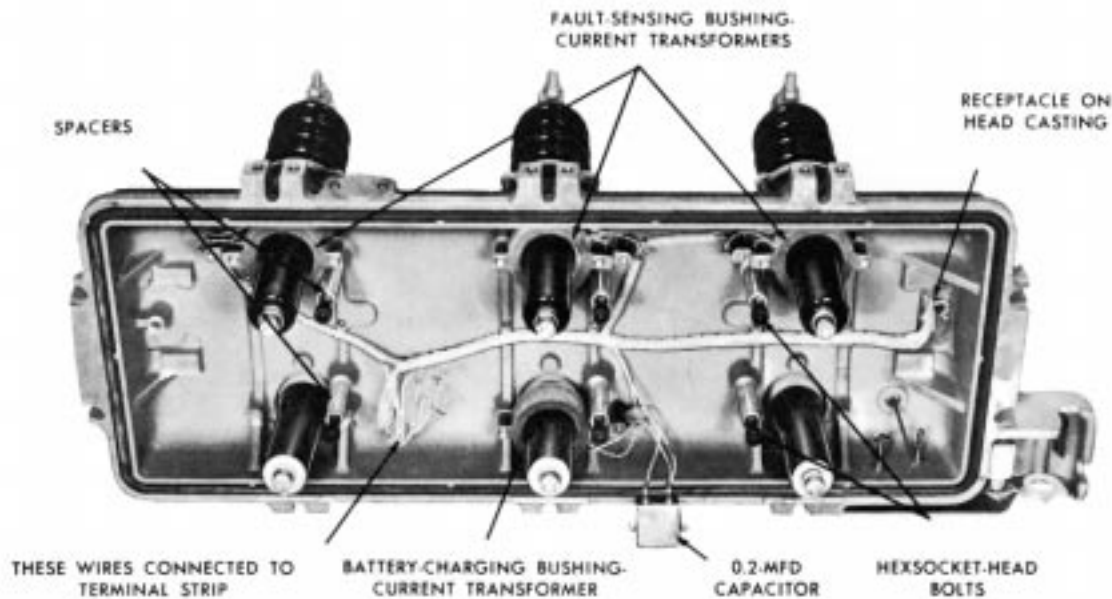

Figure 18
6. Remove the six 1/2" x 4-1/2" hexsocket head bolts that secure the frame to the head casting. Be sure the recloser mechanism is supported from below before these bolts are removed. Six tubular spacers and lock washers will be released when the bolts are removed and the head is lifted from the recloser-mechanism frame. Figure 18 shows head casting and associated components removed from the mechanism frame.